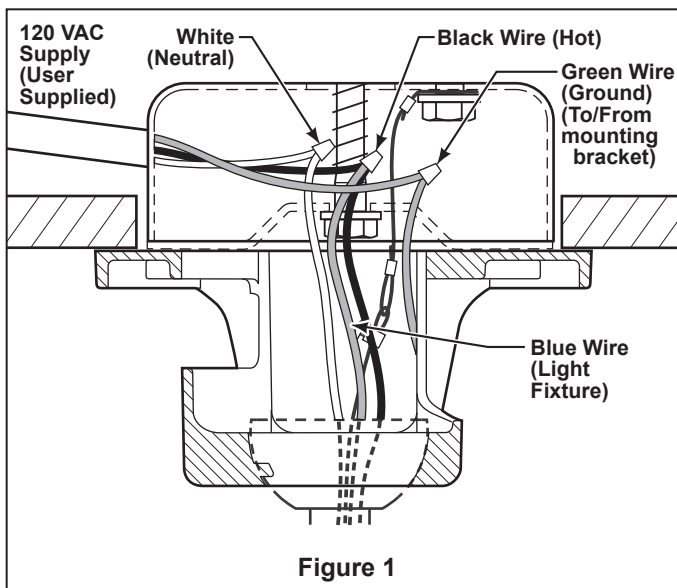

Figure 1
3. Securely connect the white wire from the fan motor to the white supply (neutral) wire using wire connector supplied (Figure 1).
4. Securely connect the black fan motor wire and blue wire to the black supply wire using wire connector supplied (Figure 1).
2. Installing Wall Control (Figures 1 & 2):
- Make wiring connections with wire nuts as shown in Figure 1.